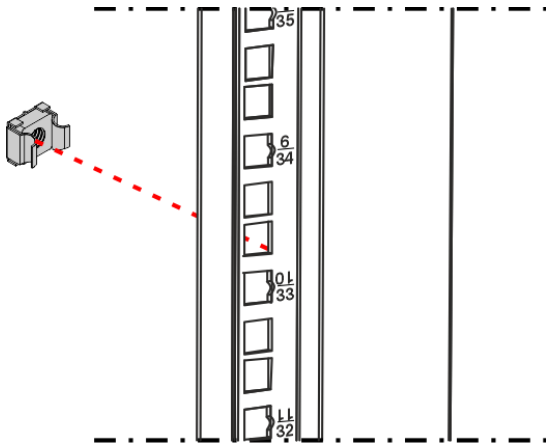

Fig. 43
- 01) Put 4 **cage nuts (M)** in front of the holes on the **vertical brackets (G)** at the place where you want to mount the equipment, as shown in Fig. 43.